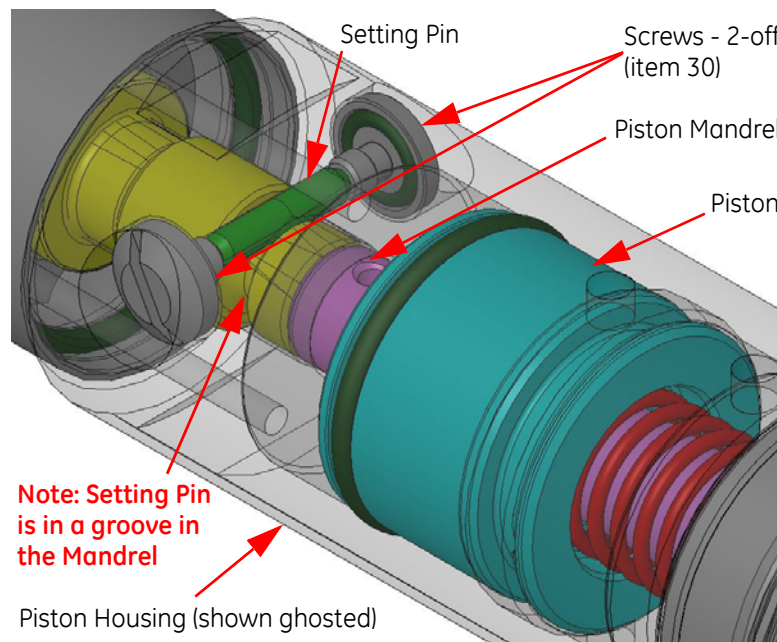

Figure 5-20 Correct installation of the Setting Pin
- 24 With reference to Figure 5-20, install one of the Screws (item 30) in the upper end of the Piston Housing.
- 25 Insert the Setting Pin (item 16) in the upper end of the Piston Housing. Make sure it is located in the groove in the lower end of the Mandrel. The Setting Pin is used to “lock” together the Mandrel and the Piston Housing.
- 26 Install the second Screw (item 30) in the upper end of the Piston Housing to secure in position the Setting Pin.
- 27 With reference to the wiring diagram (WD-416005), use a multimeter to check the resistance/continuity between the Lower Connector Assembly (item 2) and Pin 3 of the Fischer 3-Way Connector (item 15). The measurement is to be less than 0.5Ω.
- 29 When required, install the In-Line Electronics Chassis Assembly (item 2, 416026). Refer to Section 5.3.2, Installation.